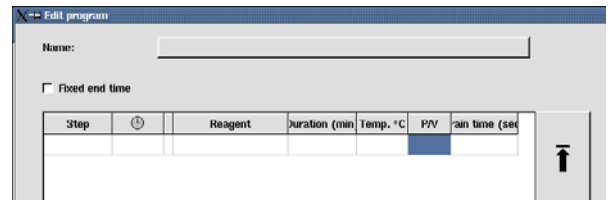

Fig. 53
- Above the table beside "Name:" there is a button, which is empty when a new protocol is defined (fig. 53)